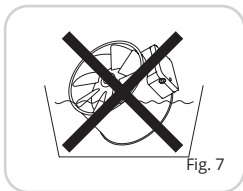
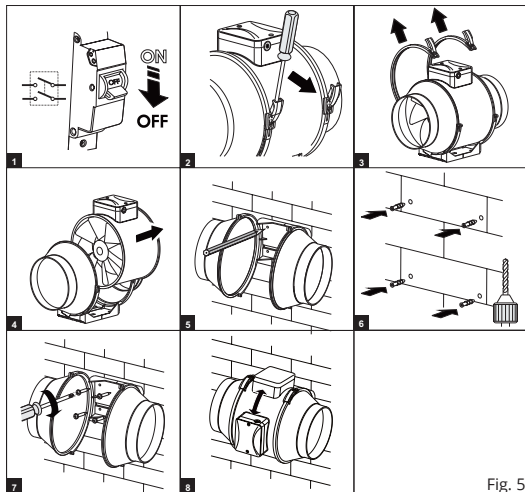

Fig. 7
Fig. 5
- Open both fixing clamps on the fan and remove the fan housing, Fig. 5.
- Fasten the fan housing with 4 screws, Fig. 5.
- Reattach the fan housing to deliver the correct airflow direction and tighten with the fixing clamps, Fig. 5.
Clean the fan at least once a year. First remove the fan housing, Fig. 5. Remove any dust and dirt using a dry cloth, damp brush or compressed air. Clean the fan blades with a damp cloth and detergent. Ensure that water does not come into contact with the electrical components, Fig. 7.